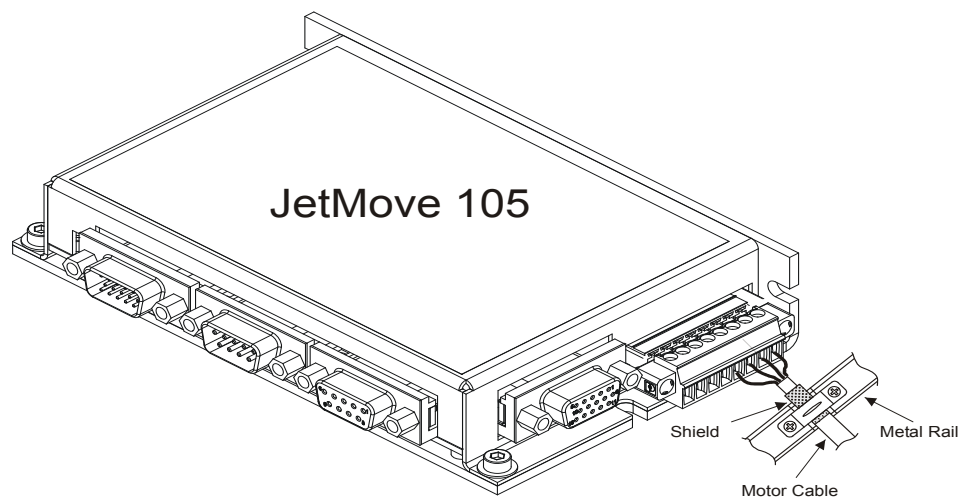

Fig. 2: Shielding of screw terminals to EMC standards
- It is important that shield and strain relief are highly conductive and directly connected to a grounded surface with the greatest possible surface area. When doing so, grounding must be implemented in a way that the unshielded portion of the cable is as short as possible (refer to Fig. 2).
- Connect the motor leads according to fig. 2, page 18.